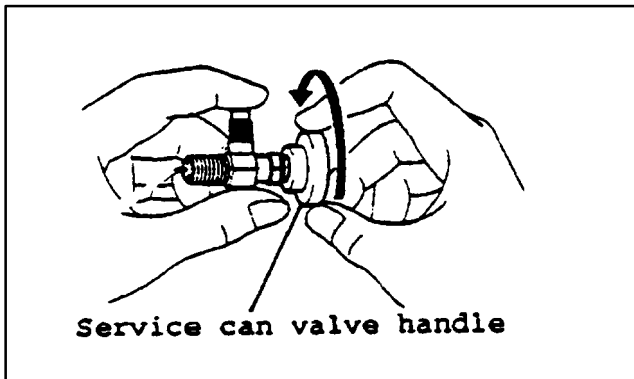

Figure 5
- (iii) Turn the service can valve handle clockwise until you can't turn it any more. **(Figure 5)**